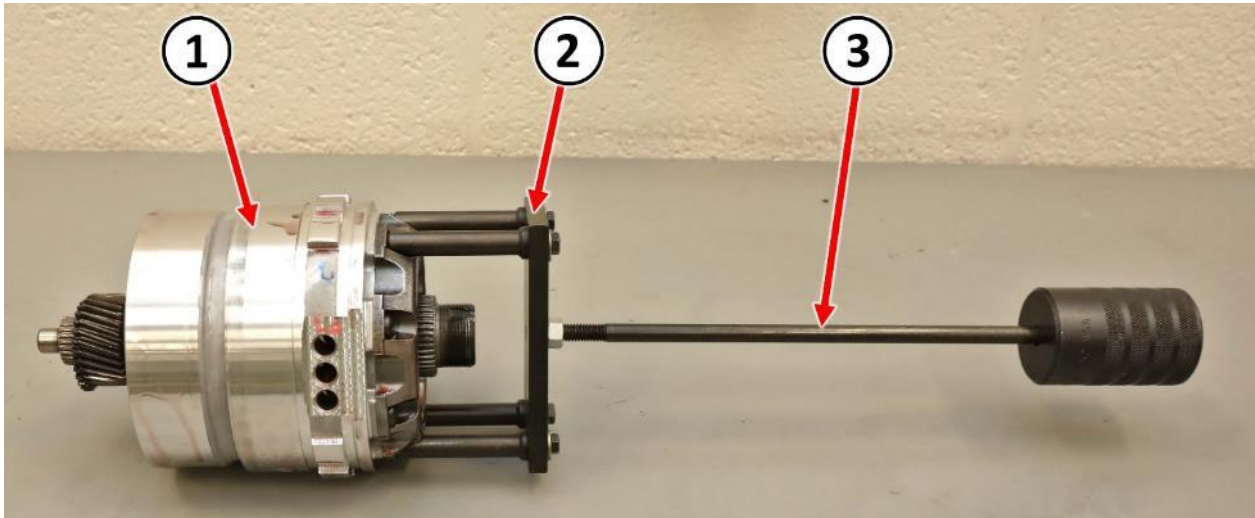

Figure 30 – Compounder Assembly on Clean Work Surface
42. Place the underdrive compounder assembly (1) on a clean work surface to prevent contamination (Figure 30).
43. Remove Slide Hammer C-3752 (3) from the Puller Adapter 9908 (2) (Figure 30).